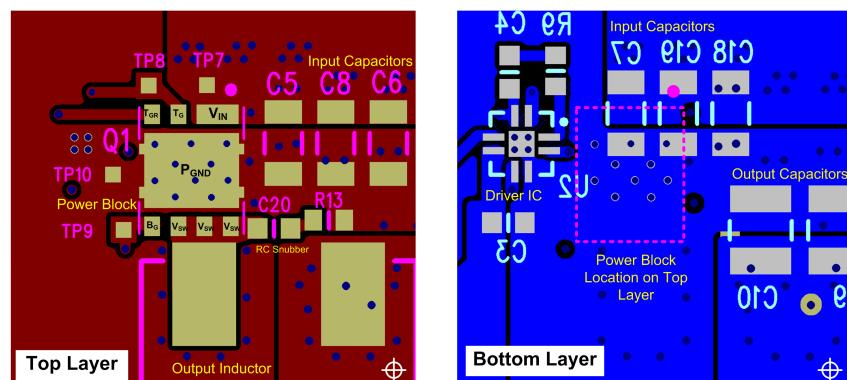

Figure 34. Recommended PCB Layout (Top Down View)
- The placement of the input capacitors relative to the power block's VIN and PGND pins should have the highest priority during the component placement routine. It is critical to minimize these node lengths. As such, ceramic input capacitors need to be placed as close as possible to the VIN and PGND pins (see Figure 34). The example in Figure 34 uses 6, 10- μ F ceramic capacitors (TDK part # C3216X5R1C106KT or equivalent). Notice there are ceramic capacitors on both sides of the board with an appropriate amount of vias interconnecting both layers. In terms of priority of placement next to the power block, C5, C7, C19, and C8 should follow in order.
- The switching node of the output inductor should be placed relatively close to the power block VSW pins. Minimizing the node length between these two components will reduce the PCB conduction losses and actually reduce the switching noise level. In the event the switch node waveform exhibits ringing that reaches undesirable levels, the use of a boost resistor or RC snubber can be an effective way to reduce the peak ring level. The recommended boost resistor value will range between 1 Ω to 4.7 Ω depending on the output characteristics of driver IC used in conjunction with the power block. The RC snubber values can range from 0.5 Ω to 2.2 Ω for the R and 330 pF to 2200 pF for the C. Refer to Snubber Circuits: Theory , Design and Application (SLUP100) for more details on how to properly tune the RC snubber values. The RC snubber should be placed as close as possible to the Vsw node and PGND see Figure 34. ⁽¹⁾
- Use the smallest drill size allowed in your design. The example in Figure 34 uses vias with a 10-mil drill hole and a 16-mil capture pad.